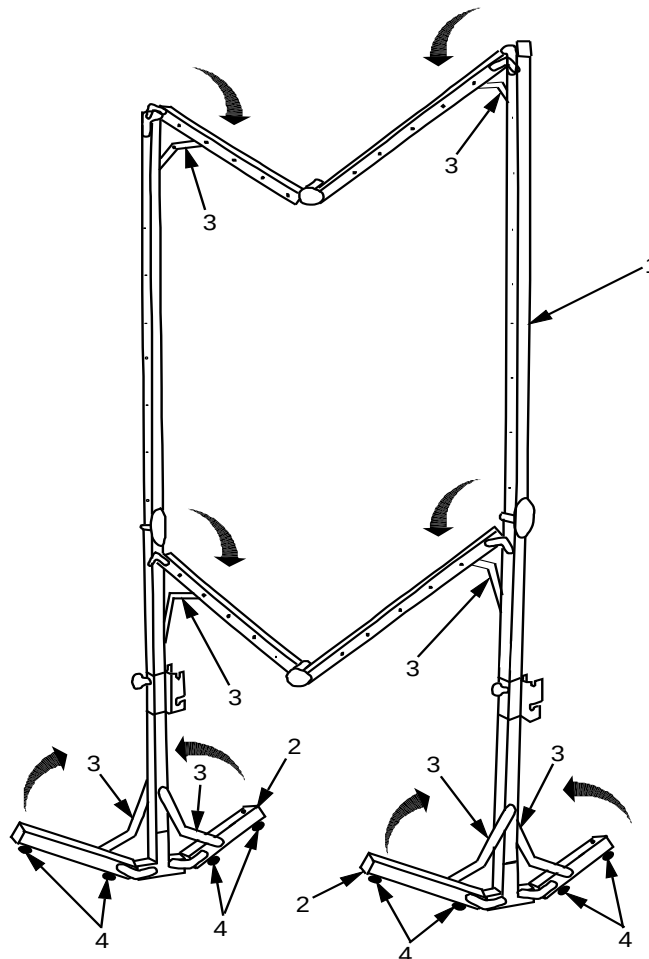

Figure 13. Collapse Screen Frame.
37. Unlock all support braces (3), retract four folding legs (2) and collapse the screen frame (1) as shown in Figure 13. Place folded screen frame into the transport case.